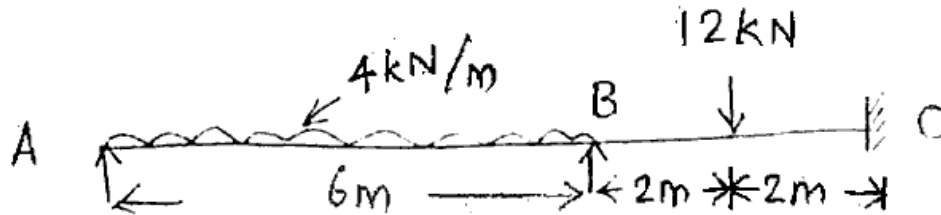

Fig Q. 11 (a)
11. (a) Analyse the continuous beam ABC shown in Fig Q. 11 (a) by flexibility matrix method and draw the bending moment diagram.